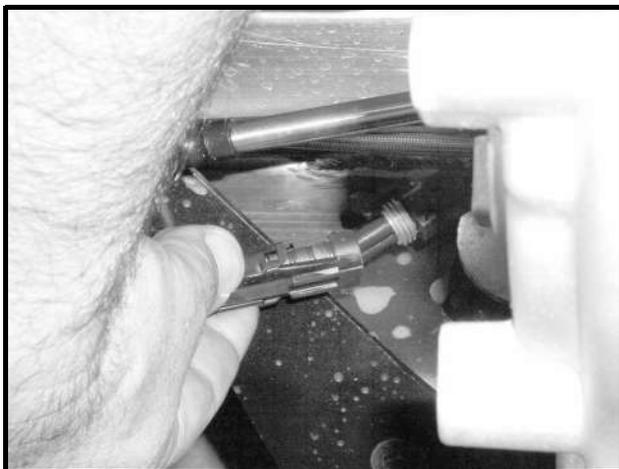

Figure 11b-21 Neutral Switch Two-Pin Connector
4. Disconnect the two-pin connector between the neutral switch and the wire harness (**Figure 11b-21, Page 11b-26**).